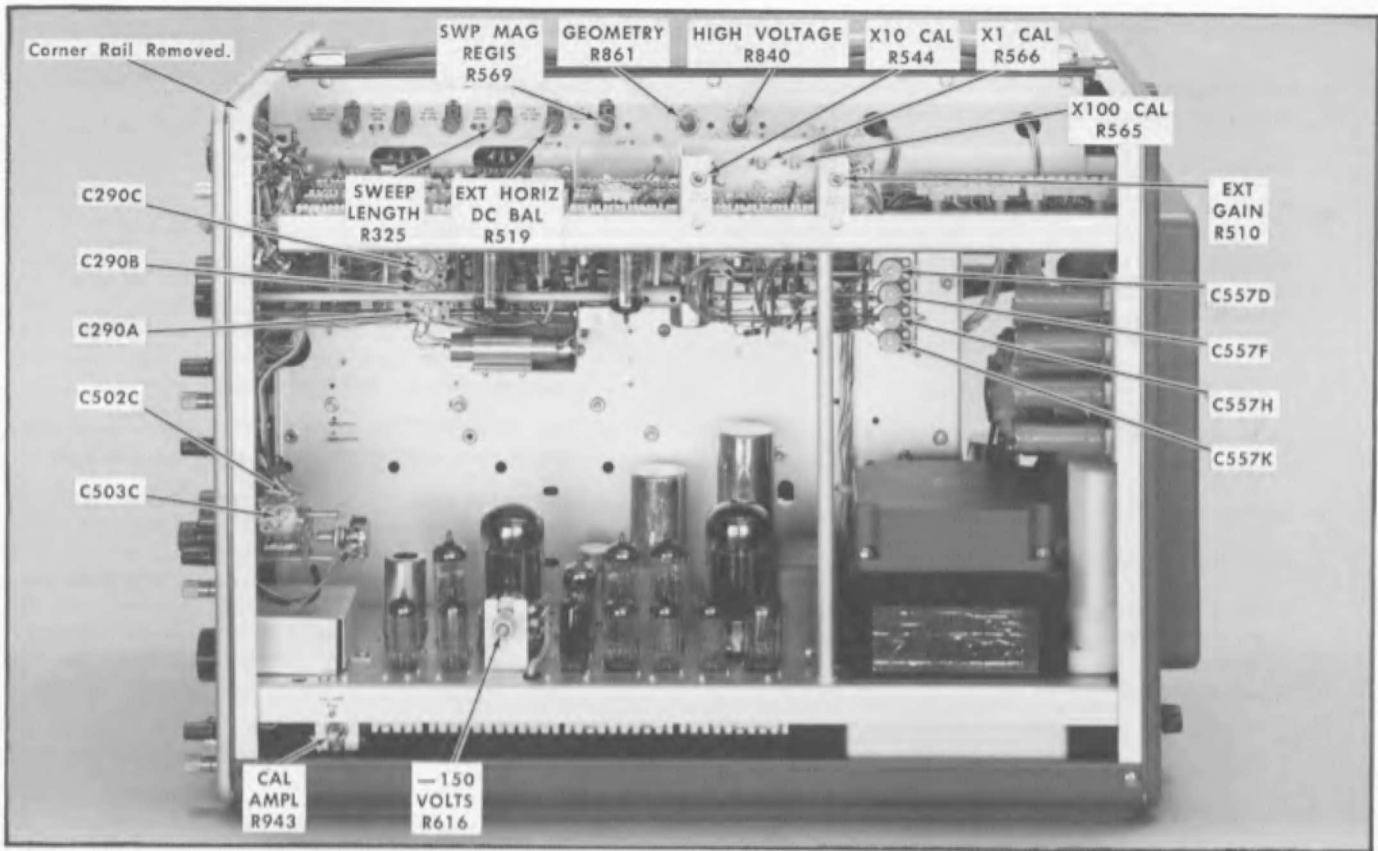

Fig. 5-2. Calibration adjustment locations (right side view).
- d. If necessary, adjust the —150 VOLTS R616 control (see Fig. 5-2) so all power supply voltages are within tolerance.
- b. Adjust the HIGH VOLTAGE control R840 (see Fig. 5-2) for a —1850 voltmeter indication.
- a. Connect a single binding post adapter (item 9) to the oscilloscope CAL OUT connector.
- d. Adjust the CAL AMPL control R943 (see Fig. 5-2) for a voltmeter reading of exactly 100 volts.
- g. Adjust the GEOMETRY control R861 (see Fig. 5-2) for straightest possible vertical marker-lines running parallel to the 0-cm and 10-cm graticule lines. Note the amount of bowing.